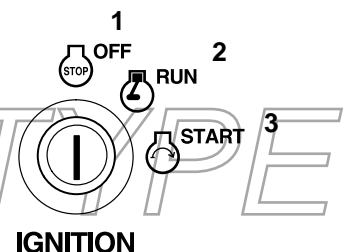

Figure 6
6. Turn ignition key “START” to energize starter. When engine starts, release key (Fig. 6).
2. Turn the ignition key to “OFF” (Fig. 6).